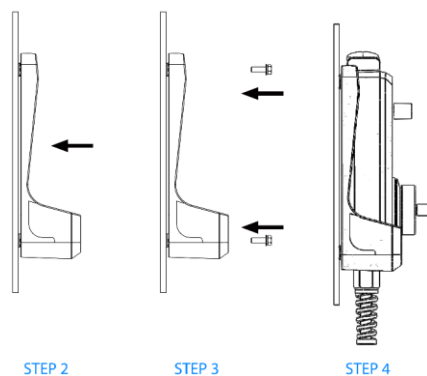
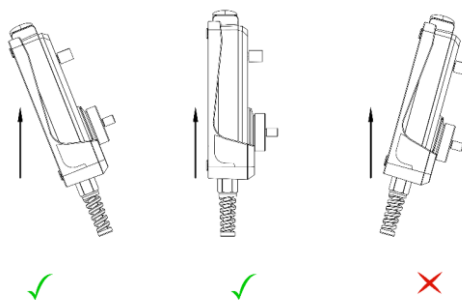

Figure 6-1 Mechanical Mounting of Remote Pendant Cradle
Figure 6-2 Allowable Mounting Angle is vertical or tilted backwards only
- The Remote Pendant must be installed vertically as shown in Figure 6-1 or tilted backwards as shown in Figure 6-2. It must not be mounted tilted forward.